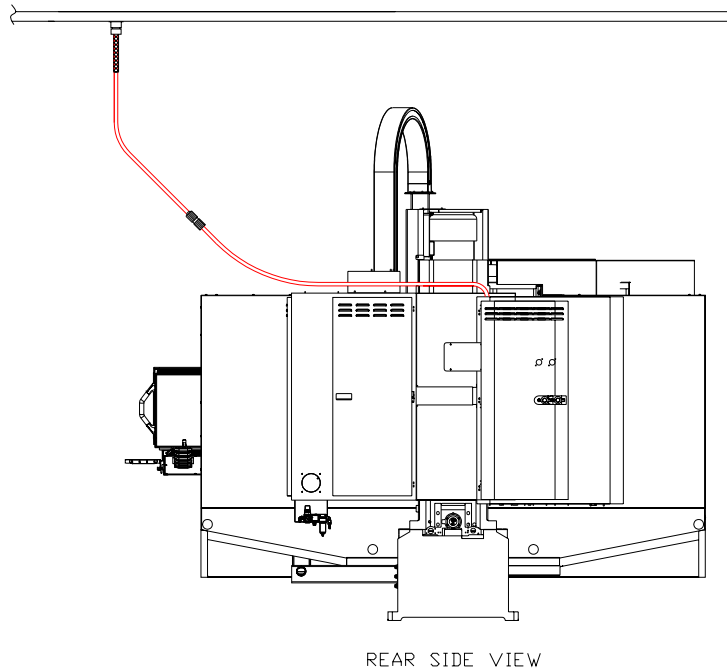

Figure 2-5: Bond Grounding Conductor to Copper Cold Water Pipe
4. One end of the supplemental grounding conductor shall be attached to the VMC's ground bus. The other end shall be effectively bonded to a copper cold water pipe that is in direct contact with the earth for 10 feet or more (*See Figure 2-5: Bond Grounding Conductor to Copper Cold Water Pipe*).